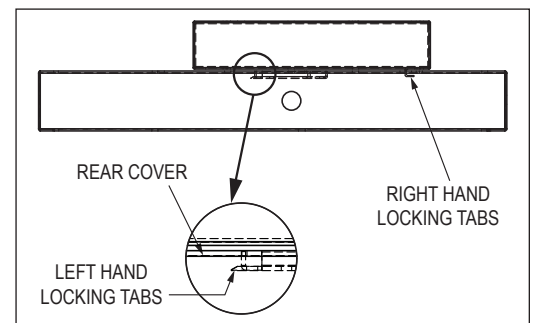

FIGURE 3
6. Refer to Figure 3. Press down firmly and slide the KVM Remote Module to the left until it stops with both left hand locking tabs securely inside the rear panel.